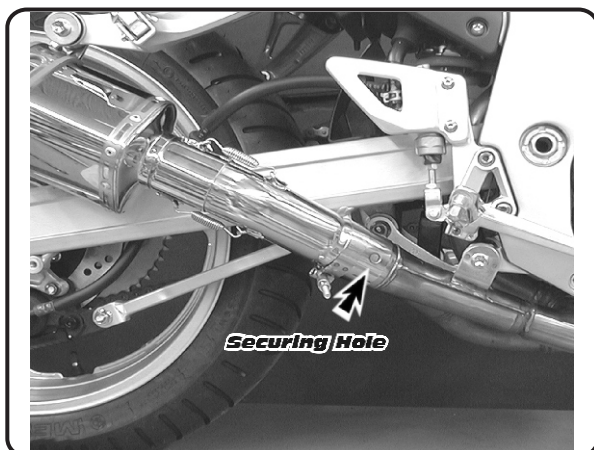

Fig. 7
- 6 Install supplied collector clamp over Slip-on mid-pipe with bolt to the inside and facing down. Install slip-on over cut portion of stock system. Ensure mid-pipe is fully seated on stock pipe.(See Fig. 7) Do not tighten clamp.
9 Drill 3/16" hole in stock header and in the center of the hole on the mid-pipe (See Fig 7). Install supplied collector rivet so the head of the rivet is flush on the mid-pipe. Center collector clamp over rivet and torque clamp nut to 2.0 kg-m (14.5 lb-ft).